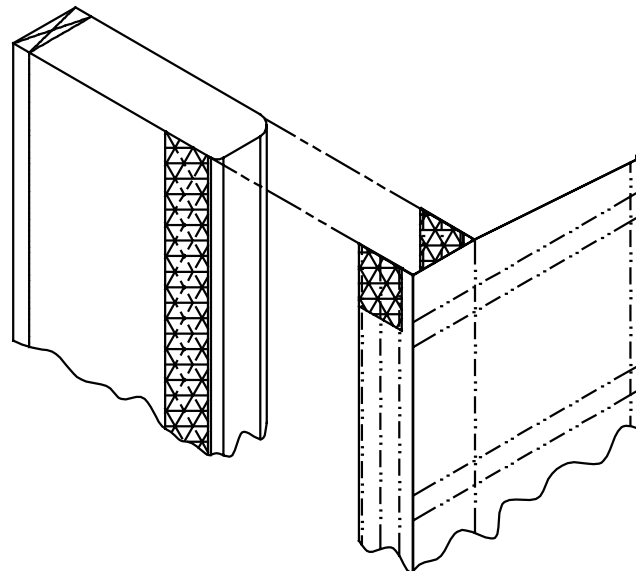

FIGURE 1
1. Align top edge of side curtain to top edge of side frame at the same time aligning the hook and loop flap on the outside of the side curtain to the hook and loop on the outside of the side frame. (See Figure 1)